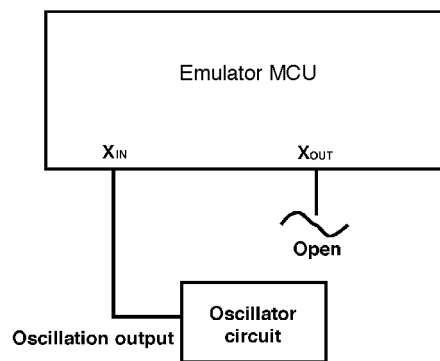

Figure 3.1 External oscillator circuit
- To operate the emulation pod with an external clock, construct the oscillator circuit as shown in Figure 3.1 in the target system and input the oscillator output at 50% duty (within the operating range of the evaluation MCU) into the X_{IN} pin. And the X_{OUT} pin should be open.